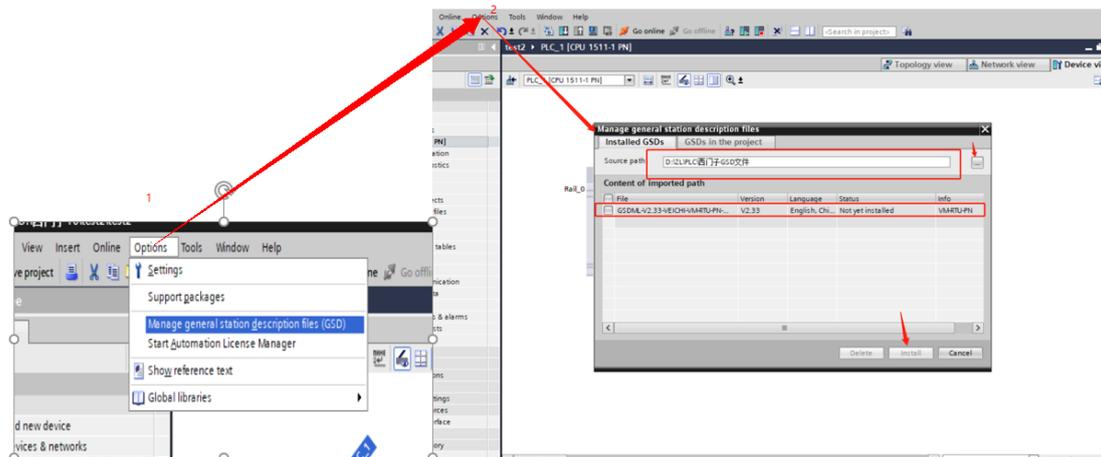

Figure 3 GSD file installation
1. After finishing the above steps, install the GSD device description file. In the menu bar, select "Options" - "Manage general station description files (GSD)", select the GSD path in the pop-up window, check the installation. As shown in Figure 3 (GSD file can be downloaded from the Veichi official website)